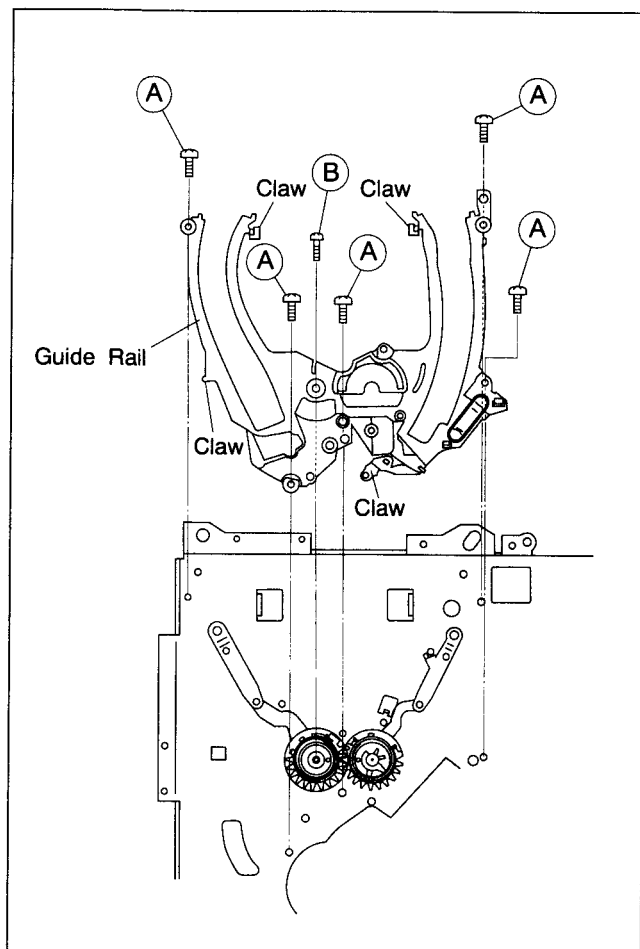

Fig. 2-5-21
- (4) Overlap holes (a) of the upper drum assembly with holes (b) of the rotor assembly (align holes in 3 locations) and secure with 2 screws (B) as indicated in Fig.2-5-21.